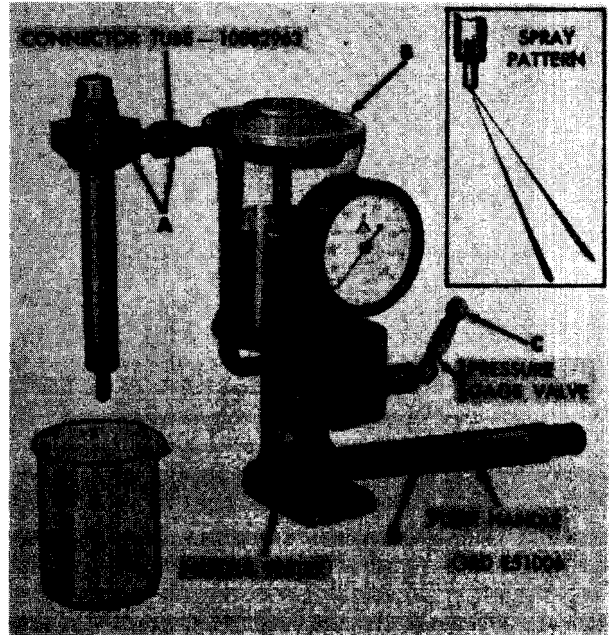

FIGURE 151. TESTING FUEL INJECTOR NOZZLE AND HOLDER ASSEMBLY.
- (2) Figure 151. (A) Mount the injector nozzle and holder assembly on the nozzle tester using the connector tube - 10882963. (B) Fill nozzle tester container with sufficient fuel. (C) Close the pressure gage valve and actuate the pump handle approximately 25 strokes to clear all air from the nozzle and holder assembly. (D) Open the pressure gage valve and depress the pump handle slowly to raise the pressure. Note pressure on gage at which nozzle opens.
**i. Assembly.** Refer to figures 152 through 155 and reverse the sequence of illustrations and instructions to assemble the fuel injector nozzle and holder assemblies. Test nozzle and holder assembly after assembly following instructions for figure 151.